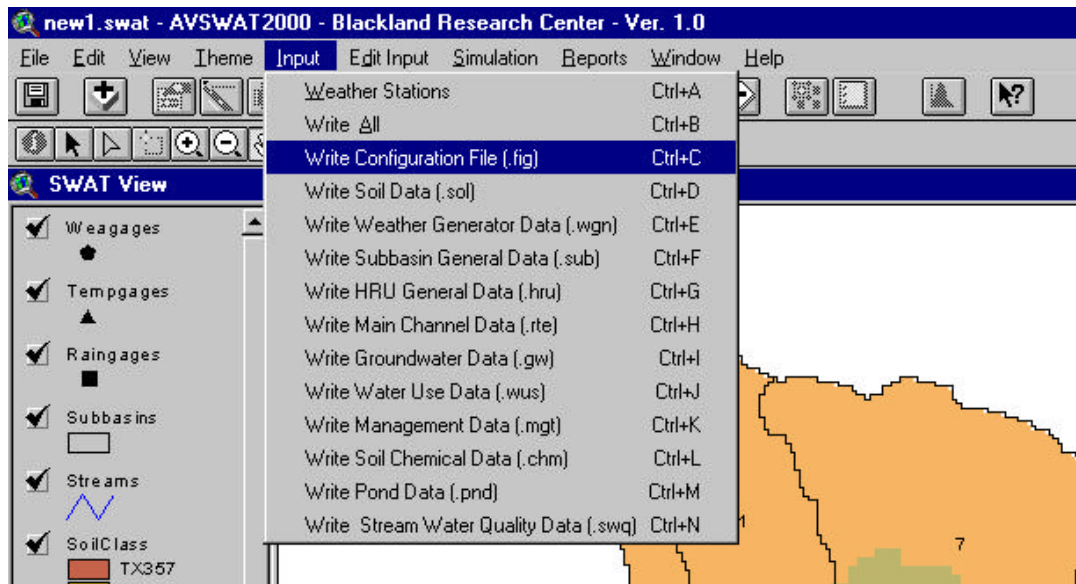

Figure 8.13
1. As an alternative to writing all the input files at once, they can be written individually. If this method is used to write the input database files, the database files must be written (selected) in the sequence in which they are presented in the *Input* menu: watershed configuration file (Figure 8.13), soil data, weather generator data, general subbasin data, hru general data, main channel data, groundwater data, water use data, management data, soil chemical data, pond data, and stream water quality data.